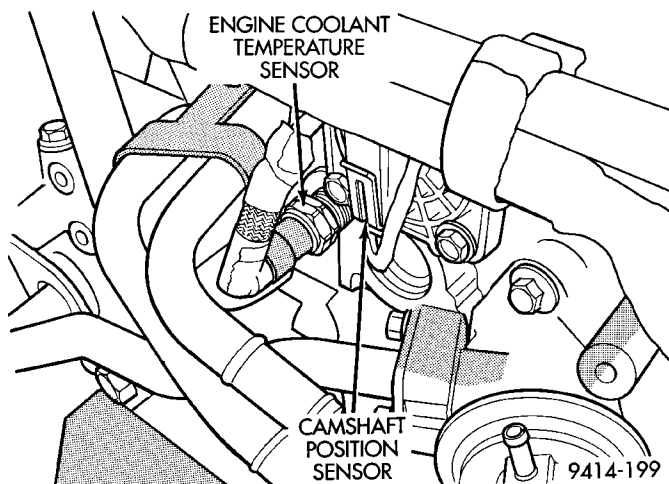

Fig. 42 Camshaft Position Sensor and Engine Coolant Temperature Sensor
(15) Check the electrical connections at the camshaft position sensor and engine coolant temperature sensor (Fig. 42).